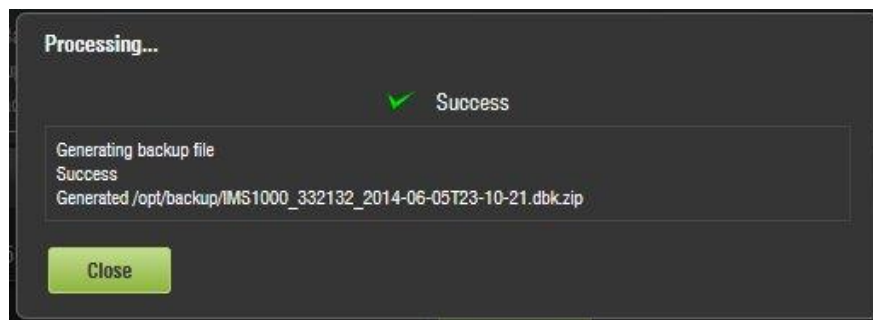

Figure 195: Restore Process Window
- The restore process will now begin (Figure 195).